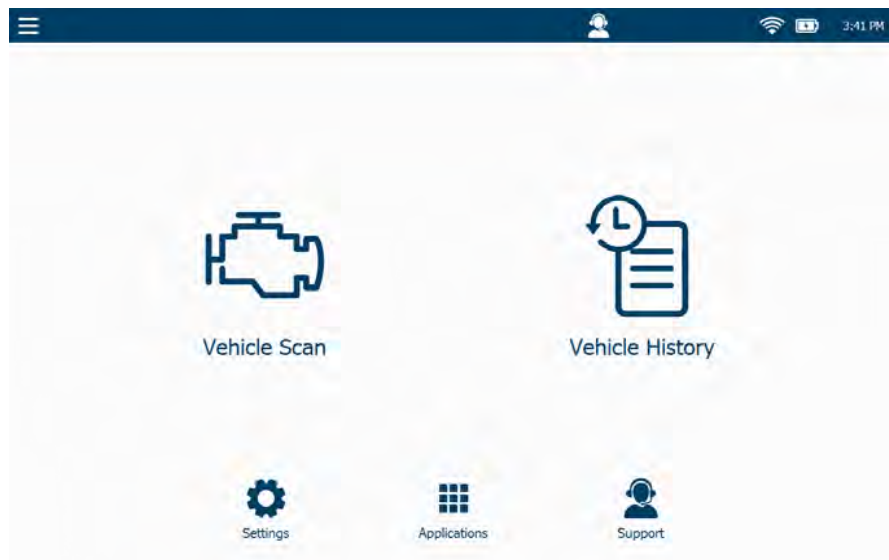

Figure 2.6 Main Menu
- **End Session**—Ends the session, disconnects from the vehicle, and returns you to the **Main Menu** (Figure 2.6).
You access the Settings Menu from the Main Menu (Figure 2.6).
You access the Applications Menu from the Main Menu (Figure 2.6). Menu selections are displayed on the left side of the screen:
You access the Support Menu from the Main Menu (Figure 2.6).